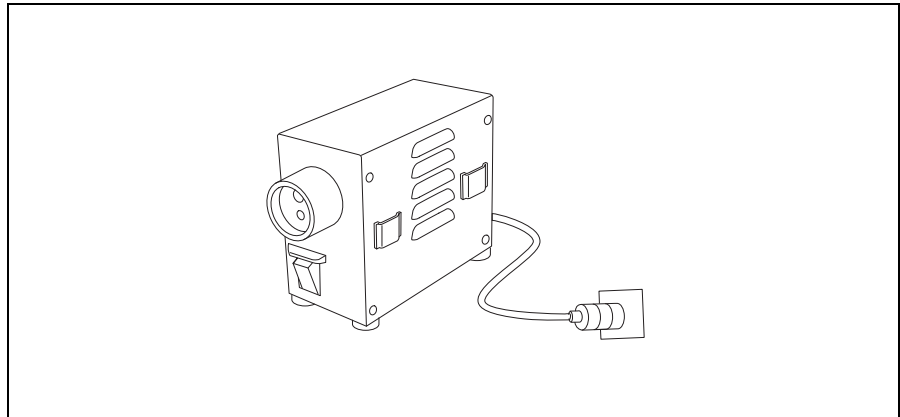

Figure 3.2
3. Insert the other end of the Power Cord directly into a Wall Mains Outlet (see Figure 3.2).